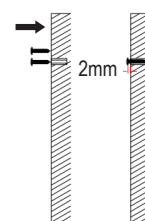

Fig. 2
- If the wall is plasterboard or concrete, push the 2 expansion anchors (included) into the holes and use a hammer to carefully tap the anchors until they are flush with the wall (Fig. 2).
- Screw the 2 mounting screws (included) into the holes, leaving the screw heads 2 mm outside the wall to hang the fan (Fig. 2).